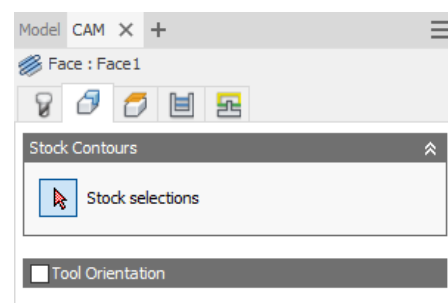

Figure 14
2. Select the  (Geometry) tab on the palette. The Face palette displays as shown in Figure 14.